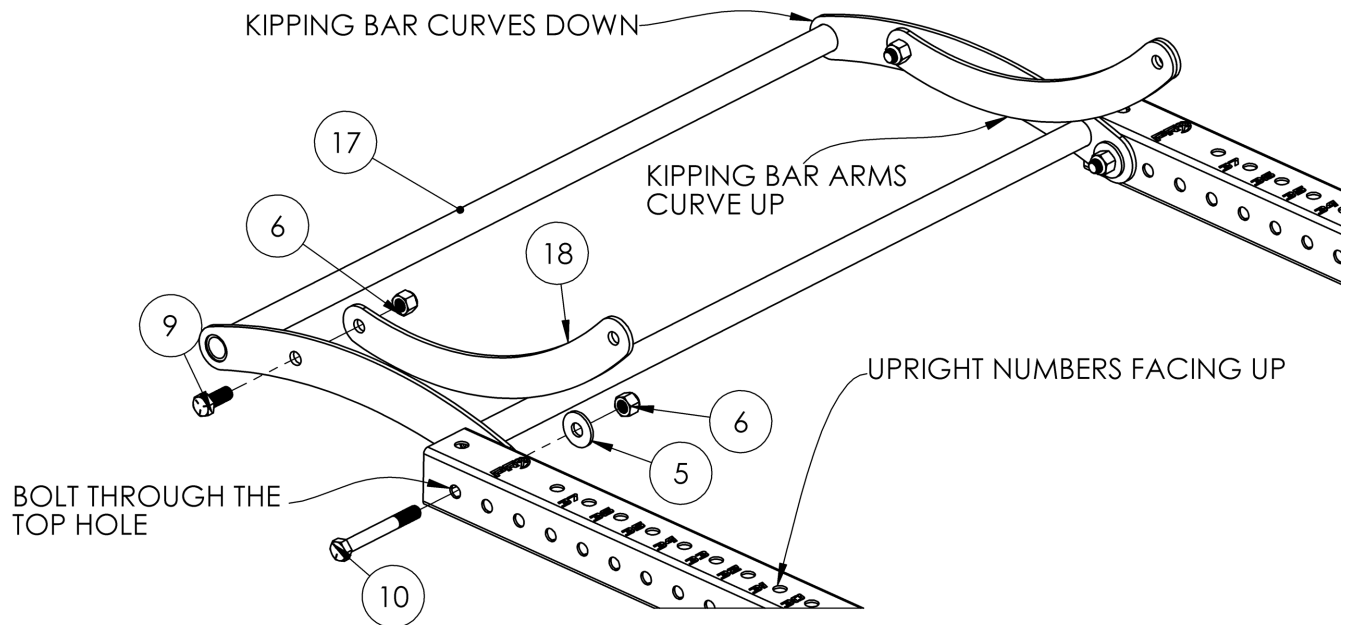

Figure 7: Attaching the Kipping Bar to the Uprights
2. Lay the Kipping Bar (17) on the ground (**Figure 7**) with the center of the Kipping Bar off the floor.
3. Attach Kipping Bar Arms (18) (**Figure 7**) with supplied 1-1/2" hex head bolts (9) and 5/8" lock nuts (6). Do not fully tighten bolts.
4. Position the Kipping Bar (17) so that the holes align with the top hole of both uprights (**Figure 7**). Using the 5" hex head bolts (10), 5/8" washers (5), and 5/8" lock nuts (6), attach the Kipping Bar to each upright (**Figure 7**), (hand tighten nuts onto bolts, they will be removed later to attach upper linkage arms).